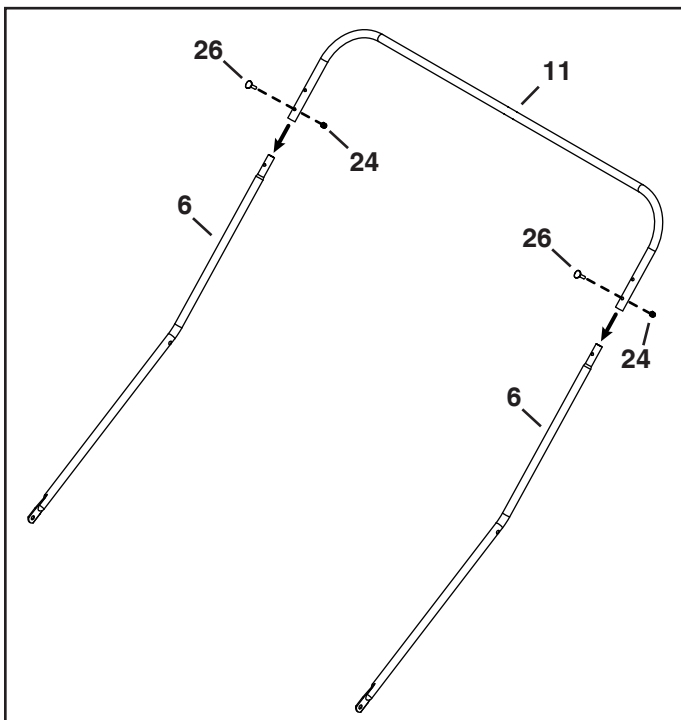

FIGURE 10
STEP 10: (SEE FIGURE 10)
- Slide a rear hopper tube (11) onto the two upper hopper tubes (6).
- Secure the upper hopper tubes (6) to the rear hopper tube (11) using two 1/4" x 1" curved head bolts (26) and 1/4" nylock nuts (24). Bolt heads should face up.